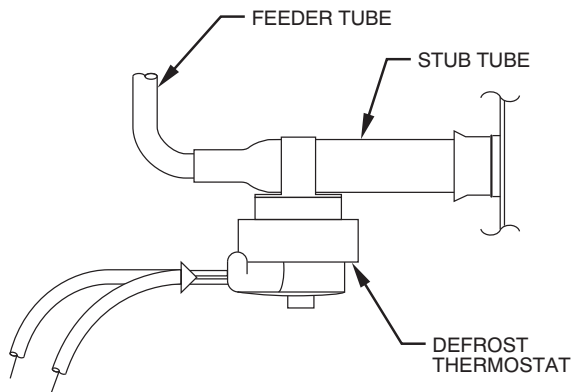

Fig. 10 – Defrost Thermostat
1. Jumper across the DFT terminals on the defrost board (Fig. 10). With this method, the defrost thermostat is removed from the circuit, and operation of the defrost thermostat itself will not be observed. Skip to #3.